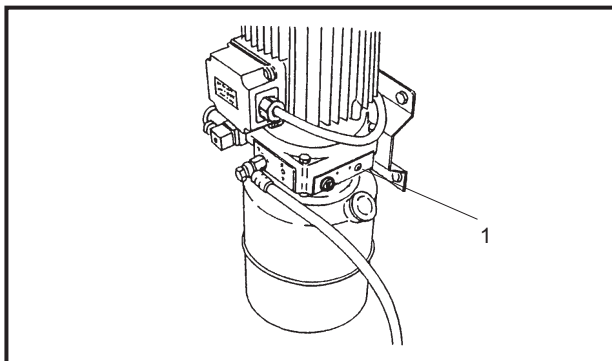

Fig.20 Relief valve
- In the case of excess weight on the lift the relief valve on the hydraulic power unit will open (Pos.1, fig.20).